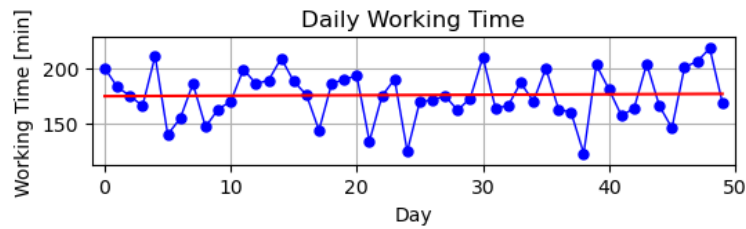

Figure 6. Plot of daily working time over 50 days (40 km bike range)
2. Report on the **daily working time**, as shown below in figure 6 and 7.